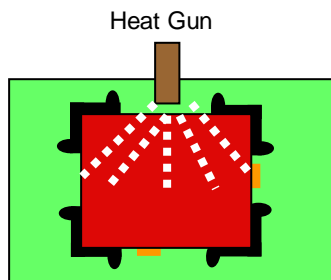

Figure 11
- Turn on the Pre-heater and Heat Gun as shown in Figure 11.